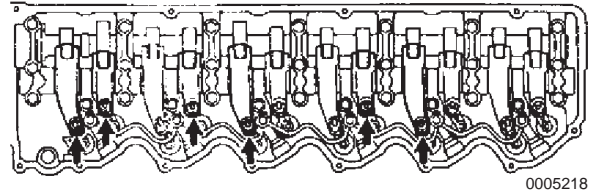

Figure 5-219
4. Check only the valves indicated by arrows in **Figure 5-219**.